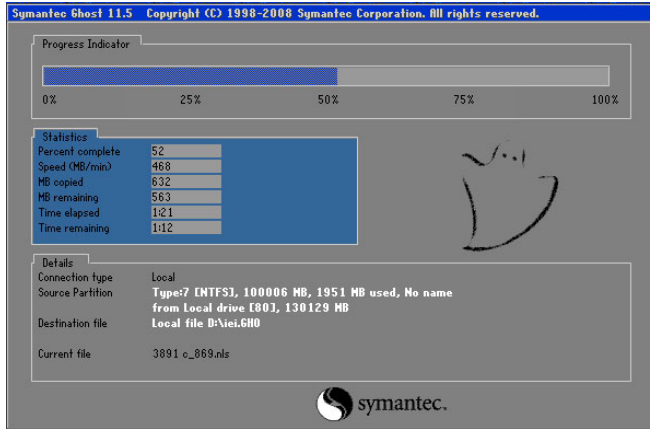

Figure B-28: Creating Image
Step 8: The Symantec Ghost starts to create the factory default image (**Figure B-28**).